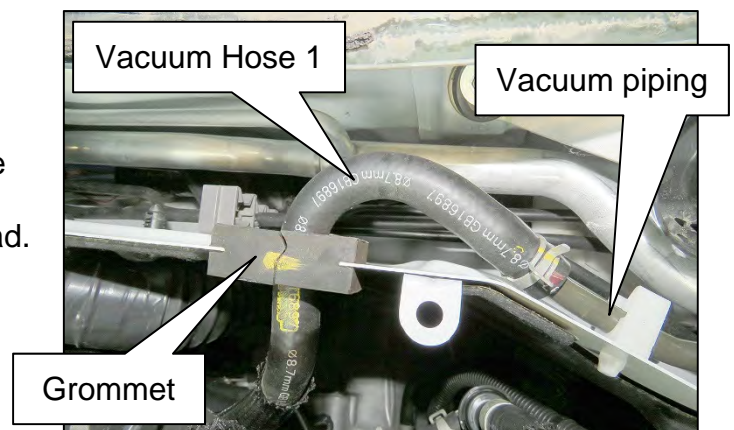

Figure 5
14. Disconnect Vacuum Hose 1 from the vacuum piping (Figure 5), and then detach its grommet from the bulkhead.